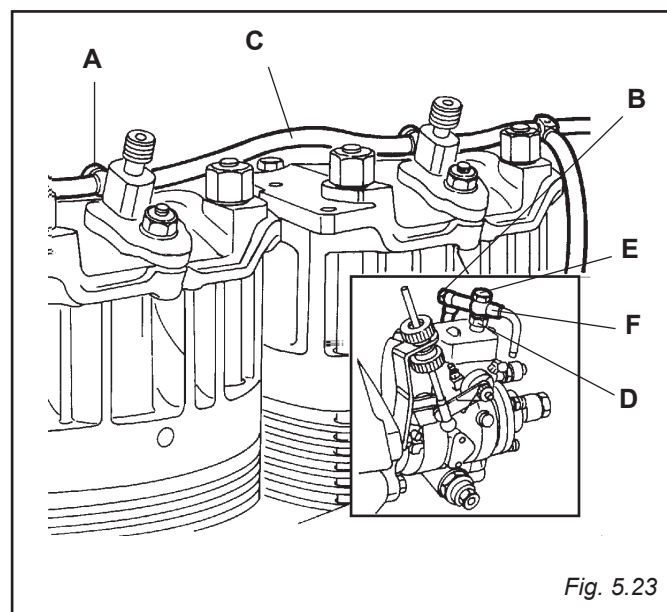

Fig. 5.23
5.30 FUEL RETURN PIPES FROM THE INJECTORS (FIG.5.23)